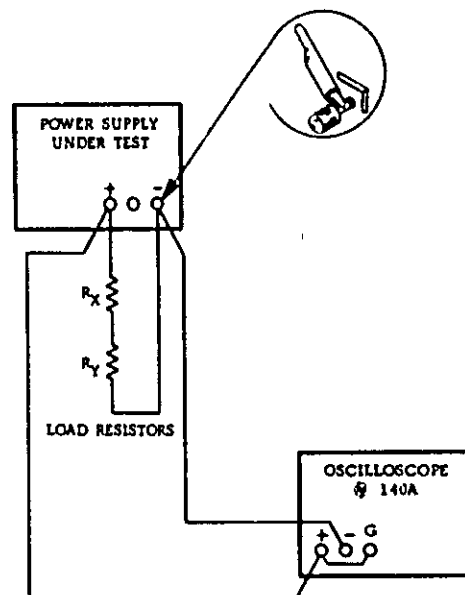

Figure 5-6. Ripple and Noise, Test Setup
- Retain test setup used for previous line regulation test except connect oscilloscope across output terminals as shown in Figure 5-6.